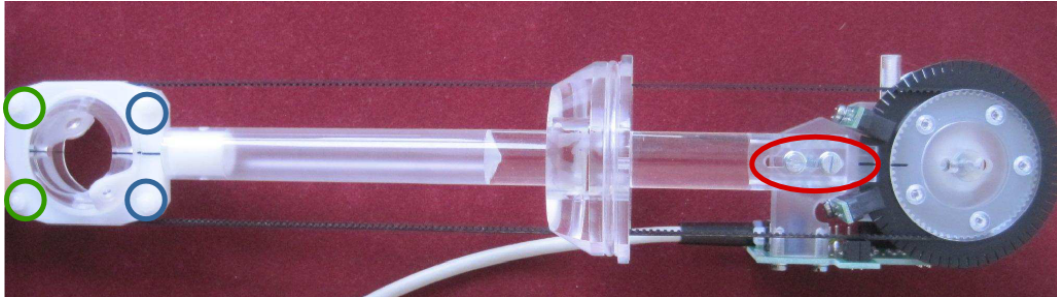
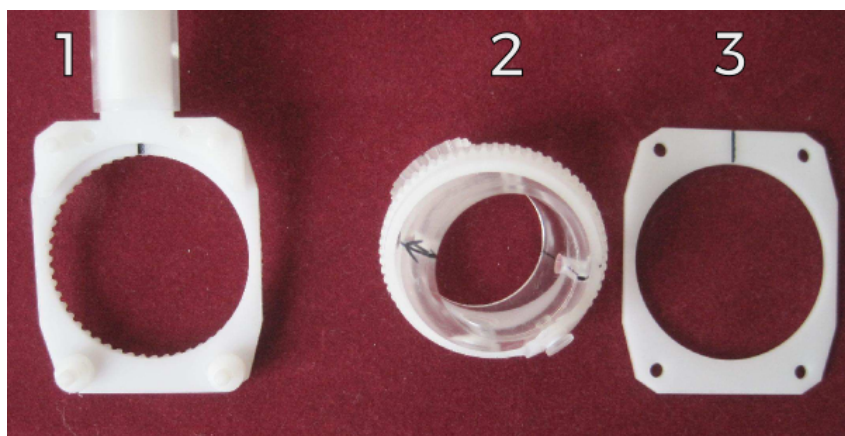
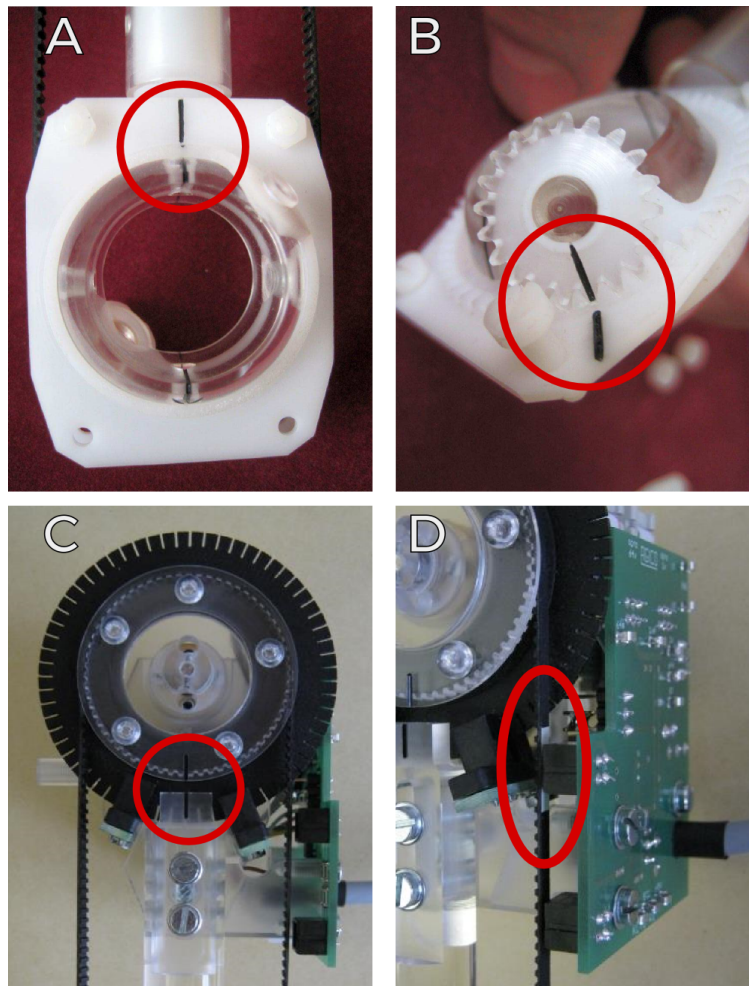

Figure 13: Position of the screws on rotator
Figure 15: Dismantled rotator
Figure 16: Aligning marks on rotator and white mark on belt
- Loose two metal screws (just a little bit, half-turn is enough) marked by big red circle on Fig.13, but do not unscrew them. Unscrew the two screws marked by the green circles on Fig.13.
- Unscrew the two plastic screws marked by the blue circles on Fig.13 and dismantle the bottom part of the rotator as seen on Fig.15.
- Insert the rotator shell (No.2 on Fig.15) into its holder (No.1 on Fig.15). Make sure that the marks shown on Fig.16 A and B are simultaneously aligned as on the picture. Then cover it with rectangular plate (No.3 on Fig.15) and carefully screw two plastic screws marked on Fig.13 by the blue circles.
- Put on the driving belt and make sure that all the marks shown on Fig.16 A, B, C and D are simultaneously aligned as on the picture.
- Gently screw two plastic screws marked on Fig.13 by the green circles. Do not forget to use pads to keep entire system in correct position.
- Apply some tension on the belt and tighten the metal screws marked on Fig.13 by the red circle. Do not put on the top cover of the rotator, yet.
- Open the **Auxiliary commands** window (Execute|Auxiliary commands). Click on the **INITIAL POSITION** button, wait until this procedure is finished and check the position of the marks as shown on Fig.16 A, B, C and D.